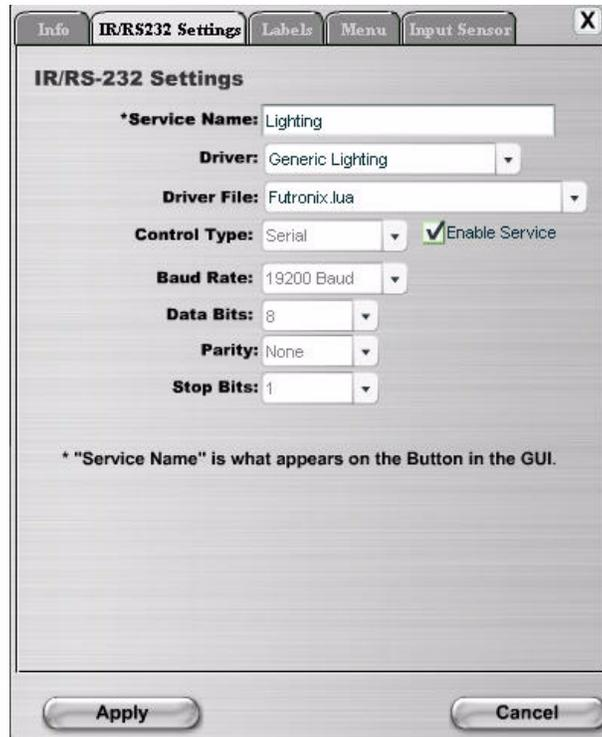

Figure 1 IR/RS232 Settings screen with Futronix.lua selected.
5. For the driver file, select *Futronix.lua* as the driver from the dropdown list as shown in Figure 1.